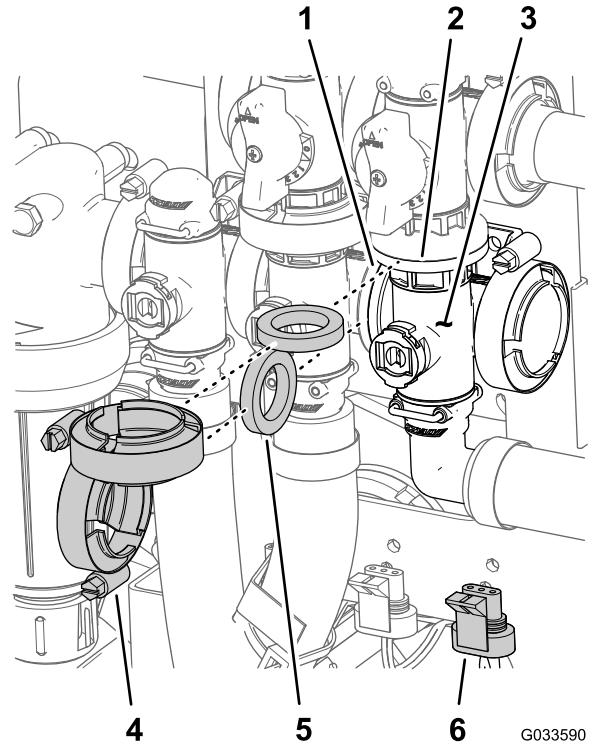

Figure 129
1. Align the flange of the master-boom-valve manifold, a gasket, and the flange of the master-boom bypass valve (Figure 129).
2. Assemble the master-boom valve manifold, gasket, and master-boom bypass valve with a flange clamp tightened hand tight (Figure 129).
3. Align the flange of the master-boom-valve manifold, a gasket, and the agitation-valve manifold (Figure 129).
4. Assemble the master-boom-valve manifold, gasket, and agitation-valve manifold with a flange clamp and tighten by hand (Figure 129)
7. Assemble the agitation valve to the valve mount with the flanged-head bolt and flanged locknut (Figure 129) that you removed in step 3 of Removing the Master Boom Manifold Valve \(page 80\), and torque the nut and bolt to 10 to 12 N·m (90 to 110 in-lb).